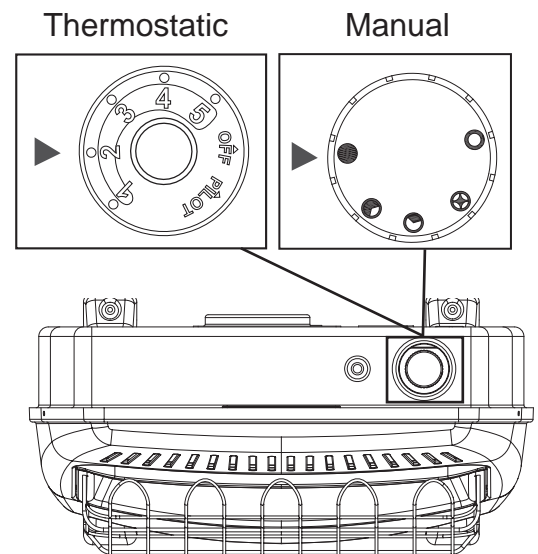

Fig. 25 - Control Knob Position
The thermostat used on this heater senses the room temperature. At times the room may exceed the set temperature. If so, the burner will shut off. The burner will cycle back on when room temperature drops below the set temperature. The control knob can be set to any comfort level between "HIGH" (5) and "LOW" (1) (See Fig. 25).
Manual valves remain burning in the desired setting until manually turned to OFF "○" (See Fig. 25).